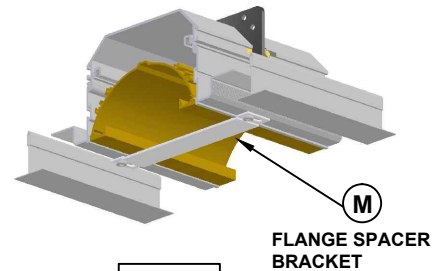

FIG. 4A
INSTALL REFLECTORS AND ROTATE FLANGE SPACER BRACKET (M) INTO POSITION AND SECURE TO PERFORATED FLANGE WITH SCREWS PROVIDED. (FIG. 4A)
INSTALL REFLECTOR ASSEMBLIES, ROTATE FLANGE SPACER BRACKET (M) INTO POSITION AND SECURE TO PERFORATED FLANGE WITH SCREWS PROVIDED. (FIG. 4A)